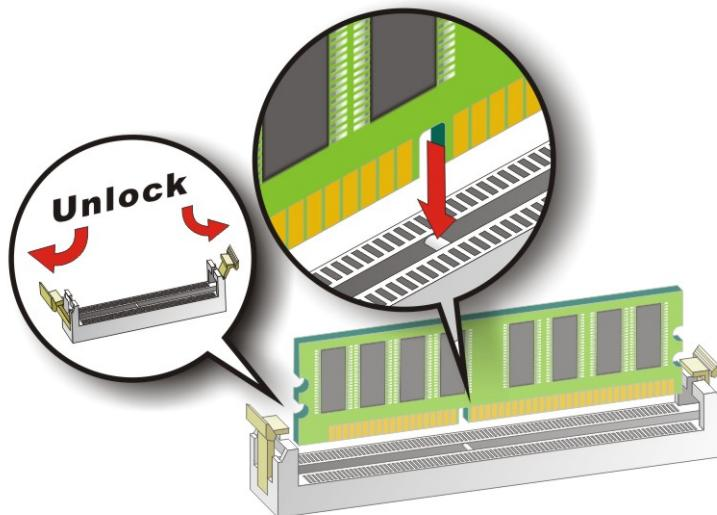

Figure 4-7: DIMM Installation
To install a DIMM, please follow the steps below and refer to **Figure 4-7**.
Step 1: Open the DIMM socket handles. Open the two handles outwards as far as they can. See **Figure 4-7**.
Step 2: Align the DIMM with the socket. Align the DIMM so the notch on the memory lines up with the notch on the memory socket. See **Figure 4-7**.
Step 3: Insert the DIMM. Once aligned, press down until the DIMM is properly seated. Clip the two handles into place. See **Figure 4-7**.
To install the iRIS-2400 module, please follow the steps below and refer to Figure 4-7.
See Figure 4-7.
Step 2: Align the iRIS-2400 module with the socket. Align the iRIS-2400 module so the notch on the module lines up with the notch on the socket. See Figure 4-7.
Step 3: Insert the iRIS-2400 module. Once aligned, press down until the iRIS-2400 module is properly seated. Clip the two handles into place. See Figure 4-7.